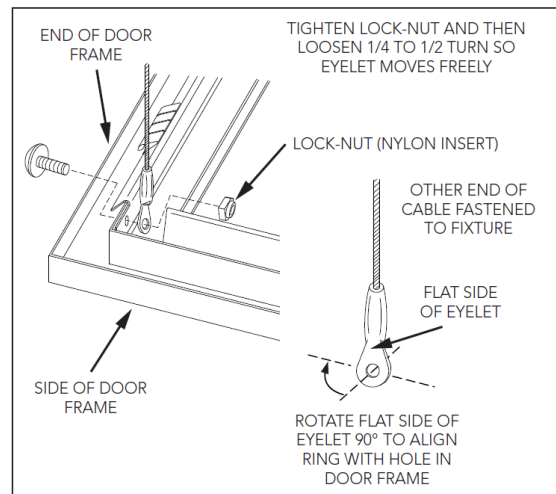

Figure 1
- Slide the eyelet over the screw orientating the eyelet as shown in Figure 1. The eyelet will need to be rotated 90° to fit properly. At other end of door rotate eyelet in opposite direction.